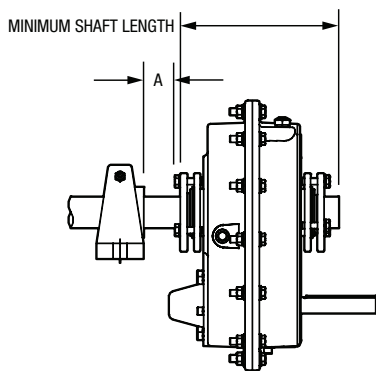

Figure 2 - Minimum Recommended Dimensions
1. One bushing assembly is required to mount the reducer on the driven shaft. An assembly consists of one long tapered bushing, one short tapered bushing, one tapered bushing wedge, bushing screws and washers, two bushing backup plates and retaining rings, and necessary shaft key or keys. The driven shaft does not need to extend through the reducer for the short shaft bushing to operate properly. The minimum shaft length, as measured from the end of the shaft to the outer edge of the bushing flange (see Figure 2), is given in Table 1.